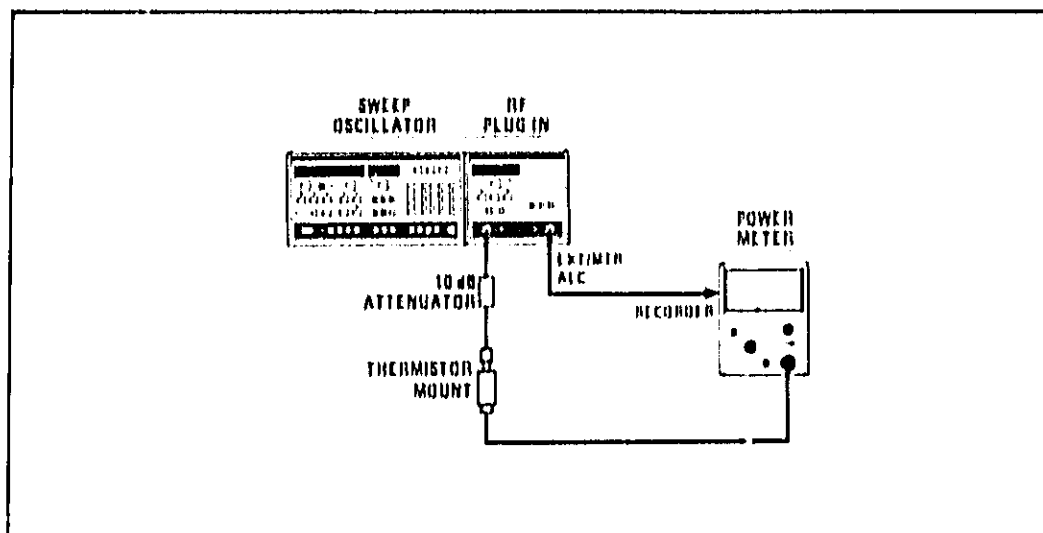

Figure 8-26. Power Meter Leveling Setup (Using HP 432A Power Meter)
- Attempt to level the power externally using the HP 432A Power Meter as shown in Figure 8-26. Select MTR leveling, and enter a 100 seconds sweep time. If the RF power is now leveled then the failure is most likely in the detectors or the Detector Selection Switch, A4U6. Refer to the following paragraph. If this does not prove to be the case, the problem may be in the two analog switches U4B and U6A. It may be necessary to perform the ALC adjustments in Section V of this manual.